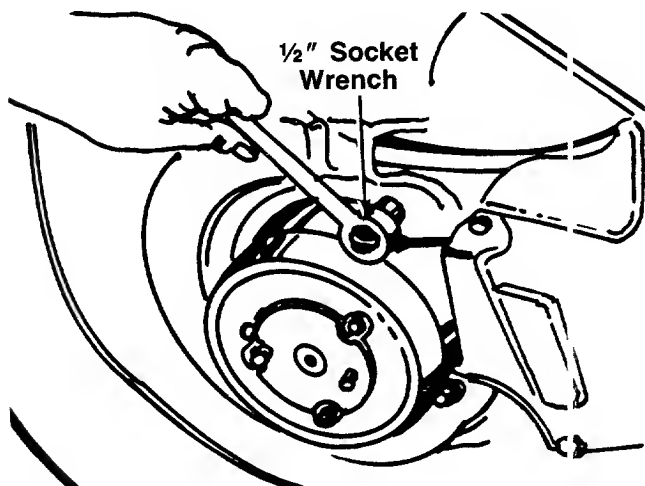

FIGURE 16.
11. Support the engine with one hand. Remove the three self-tapping screws which secure the deck and blade brake/clutch to the engine. A 1/2" socket wrench is required. See figure 16.